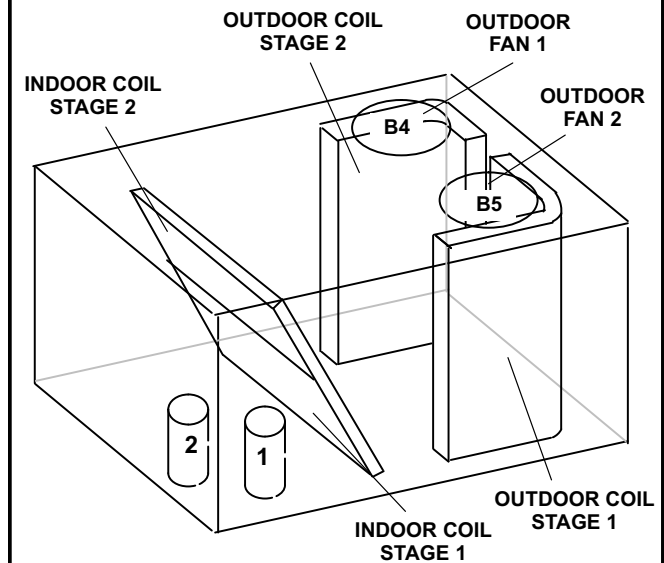

FIGURE 16
- 3- Units contain two refrigerant circuits or systems. See figure 16 or 17.